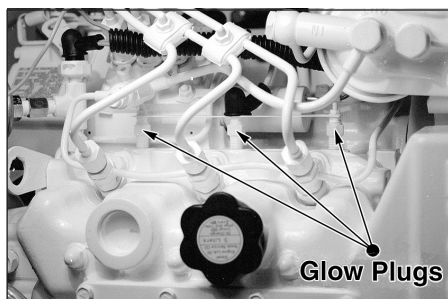

Figure 15: Glow plugs.
2. To check the glow plugs, loosen the current carrying flat wire between the plus-poles of the glow plugs (Figure 15). Connect a D.C. test bulb between the plus-pole of the battery and the plus-pole of the glow plug. If the bulb lights up, the glow plug is functioning properly.